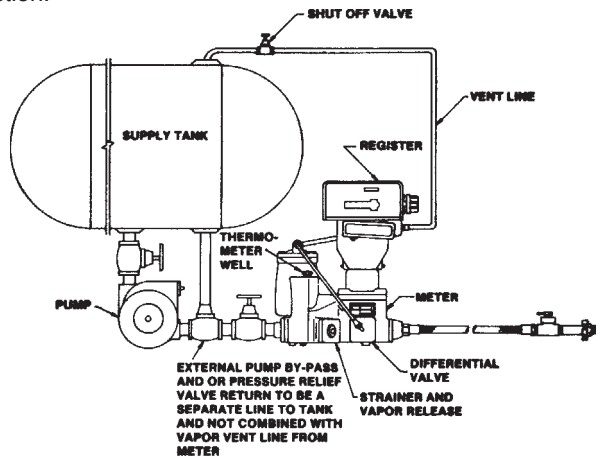

FIGURE 2.
1. Plan the installation for maximum rate of delivery, sizing the supply tank outlet, piping and valve for free gravity flow to the pump suction. To accomplish this, locate the pump as close as possible to the supply tank and use short inlet connections with few restrictions. Keep the number of elbows to a minimum, and use large radius elbows, wherever possible. To further reduce the likelihood of causing vapor in the pump suction line, install a pump bypass valve in a return line to the supply tank as shown in the installation drawing. (See Figure 2).
Erratic registration may be an indication of vapor or dirt in the measuring chamber. It cannot be corrected by recalibration. Clean the strainer and if necessary the flowmeter as directed in the section "Preventative Maintenance Schedule." For proper operation the installation must be as shown in Figure 2.